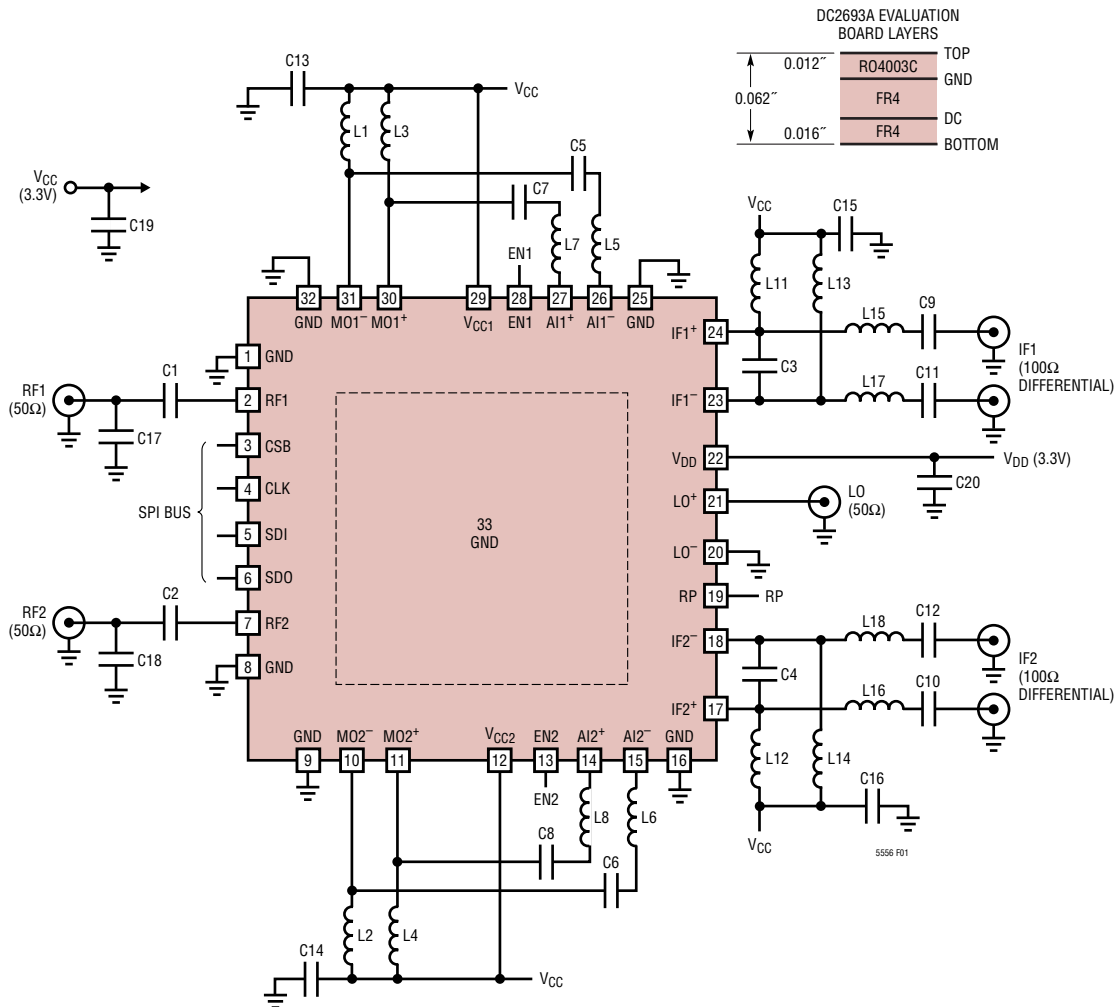
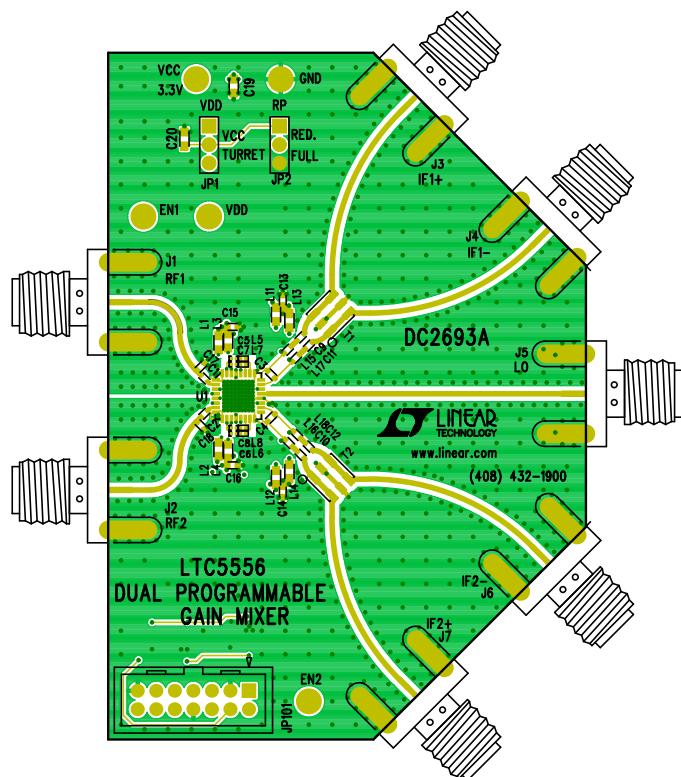
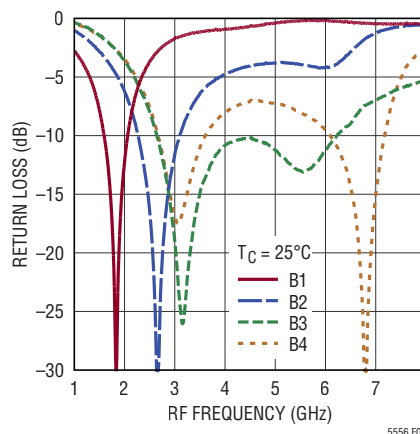

Figure 1. Test Circuit Schematic with 100Ω Matched Differential IF Outputs
Figure 2. Evaluation Board
Figure 4. RF Input Return Loss for Each Band
# TYPICAL PERFORMANCE CHARACTERISTICS Test circuit shown in Figure 1.
**TYPICAL PERFORMANCE CHARACTERISTICS** Test circuit shown in Figure 1.
Each channel can be programmed to a reduced power mode via the SPI or the RP pin, resulting in a 24% power savings, with reduced linearity performance. The test circuit schematic in Figure 1 shows the external components used to characterize the IC. The evaluation board is shown in Figure 2.
The RF inputs are 50Ω matched from 2.6GHz to 6.4GHz, requiring only a 1pF series capacitor (C1) for DC-blocking. Shunt reactance C17 is used to tune the inputs down to 1.5GHz, or up to 7GHz. Figure 1 summarizes the external matching component values for all bands. Measured RF input return loss for each band is shown in Figure 4.